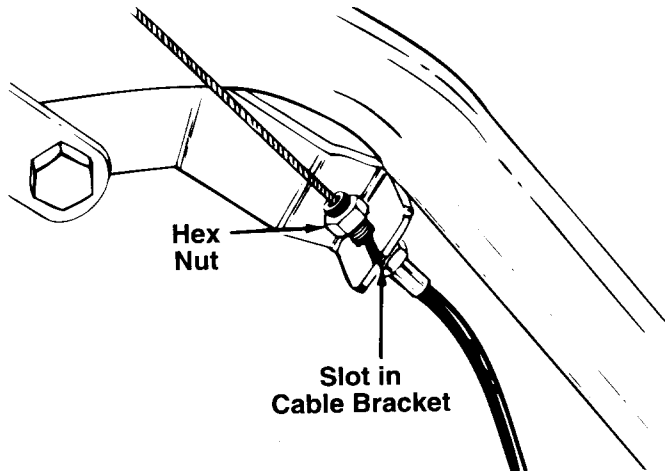

FIGURE 6.
- a. Remove one hex nut from the end of the casing on the forward clutch cable. Slip the wire through the slot on the cable bracket on the left handle. Push the end of the casing up through the cable bracket. Rethread the hex nut on the end of the cable. Do not tighten at this time. See figure 6.